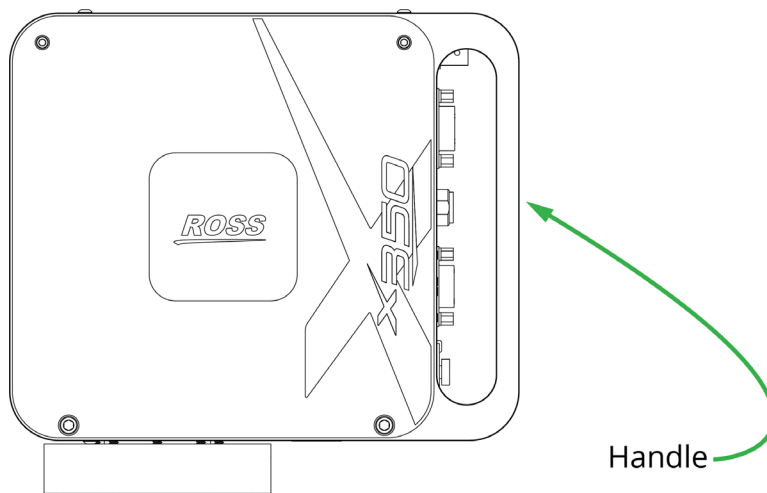

Figure 12 - Side View of an X350 Head, showing a Handle
- prevent strain on cable connections, by attaching cables to the head's handles (**Figure 12**). Minimize drag by tying cables to a fixed support close to the head, and by keeping the unsupported cable swag short.